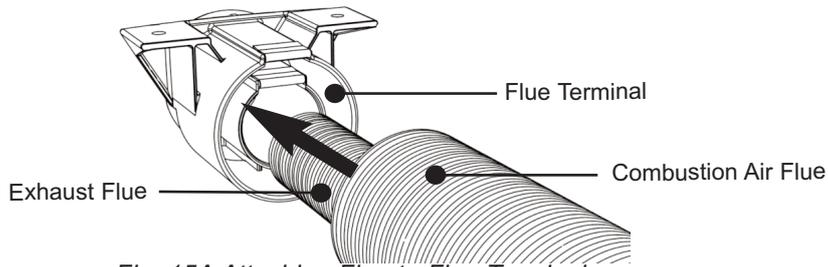

Fig. 15A Attaching Flue to Flue Terminal
- iii. Push the exhaust flue into the rear of the flue terminal (fitted to the vehicle floor) until it will go no further, (approx 50mm). The flue **must be** pushed fully home. Please see Fig. 15A, B and C.